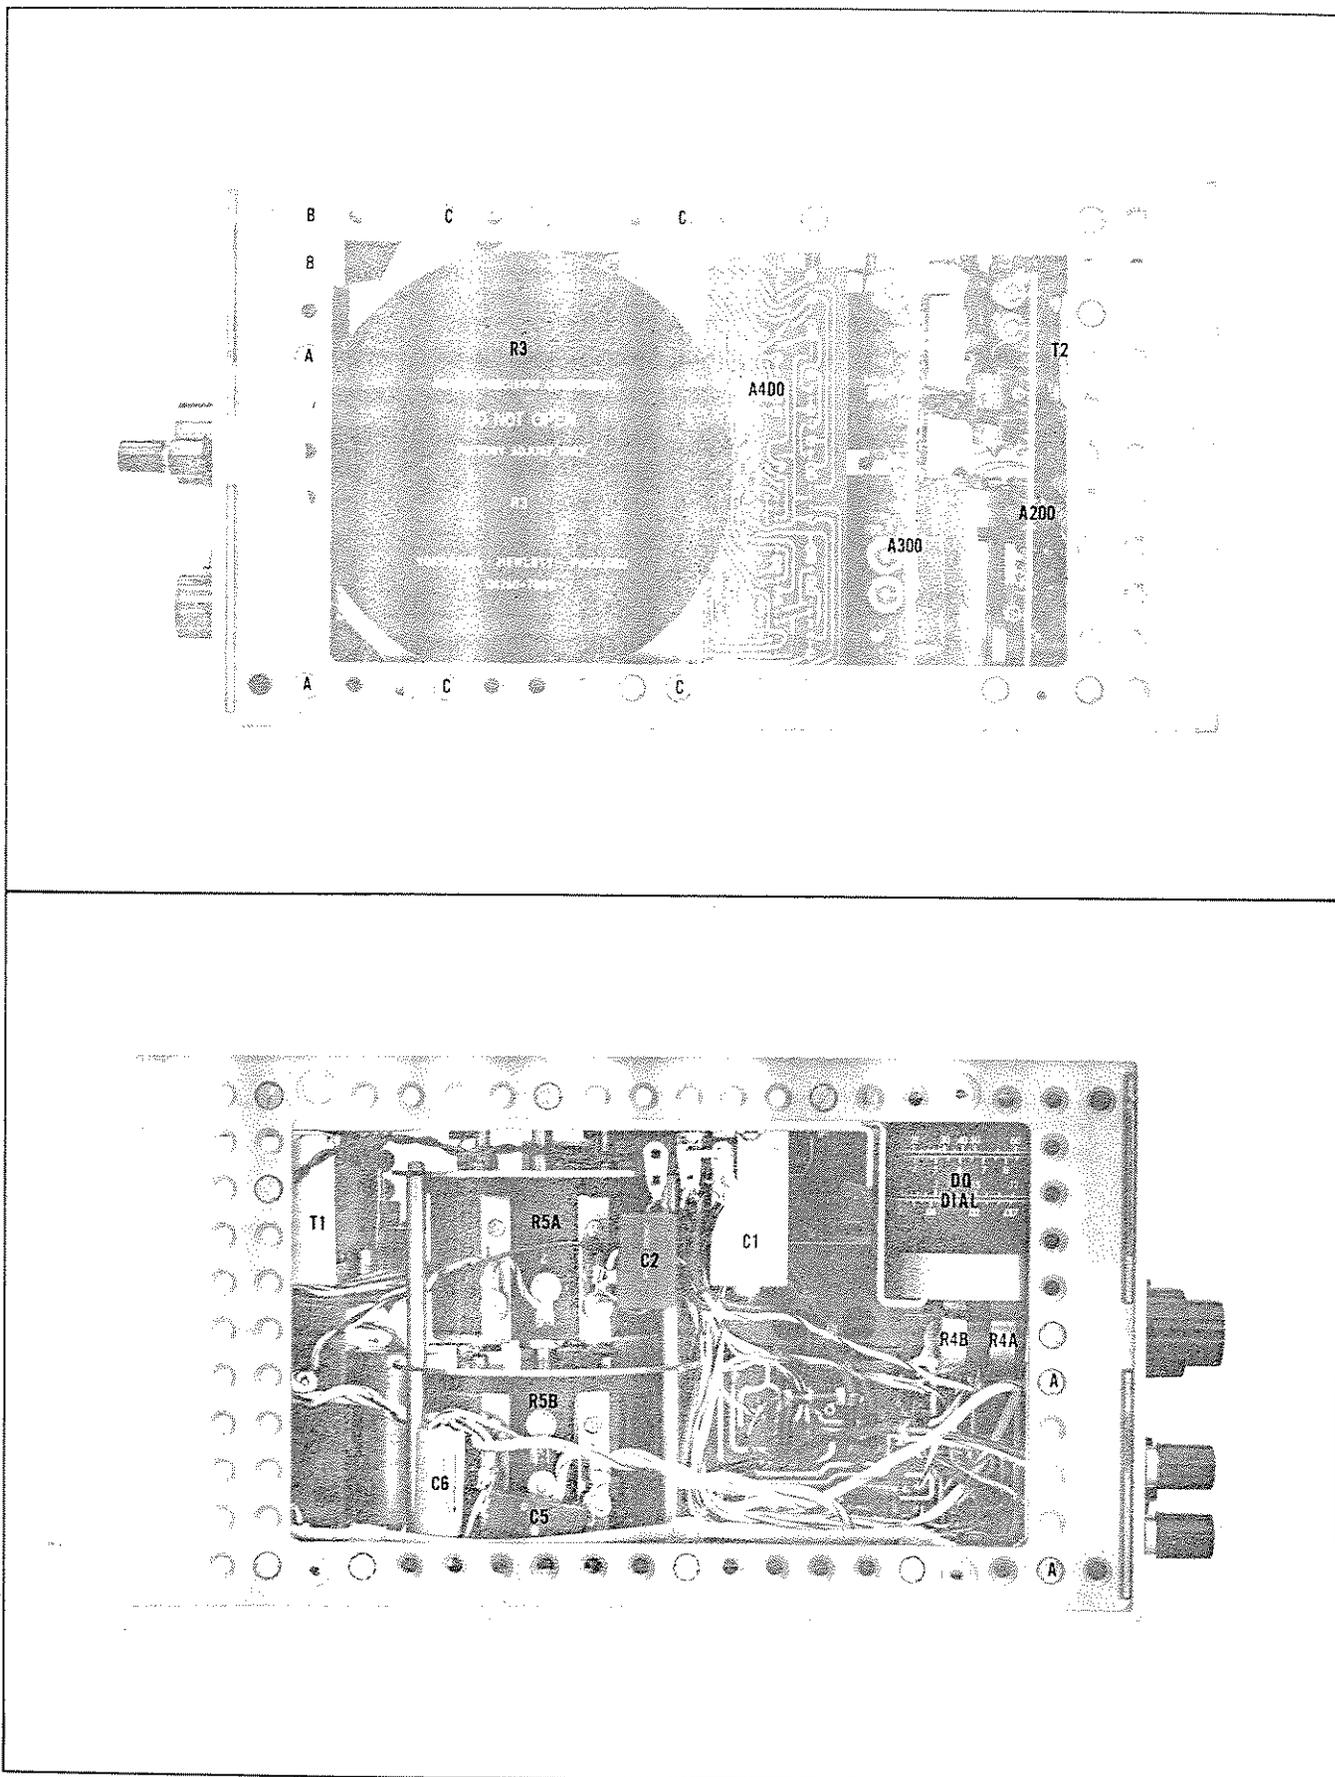

Figure 5-3. Right and Left Side Internal Component Location
5-16. Instrument covers are removed by taking out screws in each cover. To remove front panel, remove all front-panel knobs and side covers. In Figure 5-3 locate the four screws "A" which hold the side frames; loosen these screws. Carefully pull front panel towards front while holding side frames apart to release panel. Loosen deck side screws also.
5-20. CRL COUNTER. To remove this counter, remove two screws "B" in Figure 5-3 and lift out counter. Refer to Paragraph 5-27 (CRL ADJUSTMENTS) before installing counter.
5-21. CRL RESISTOR R3. For R3 replacement, remove CRL knob and four screws "C" in Figure 5-3.
- d. Loosen screws "B" in Figure 5-3 and separate counter gear from gear train.